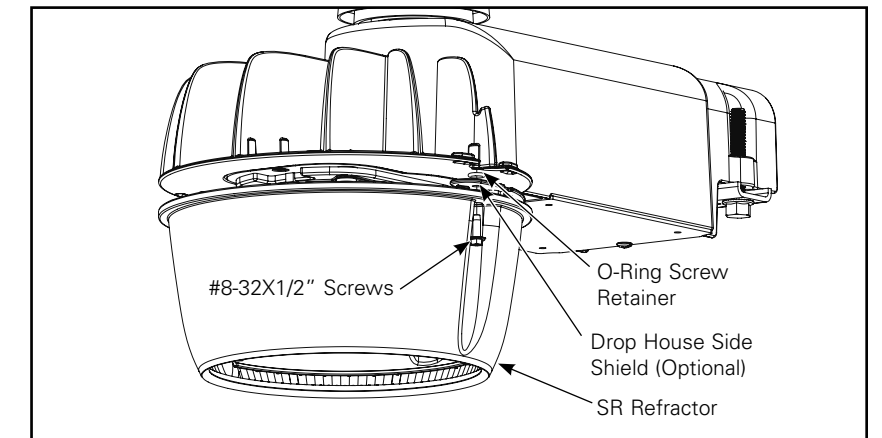

Figure 13.
4. Install the refractor in the die-cast housing in the two side mounting locations. (Figure 13.)